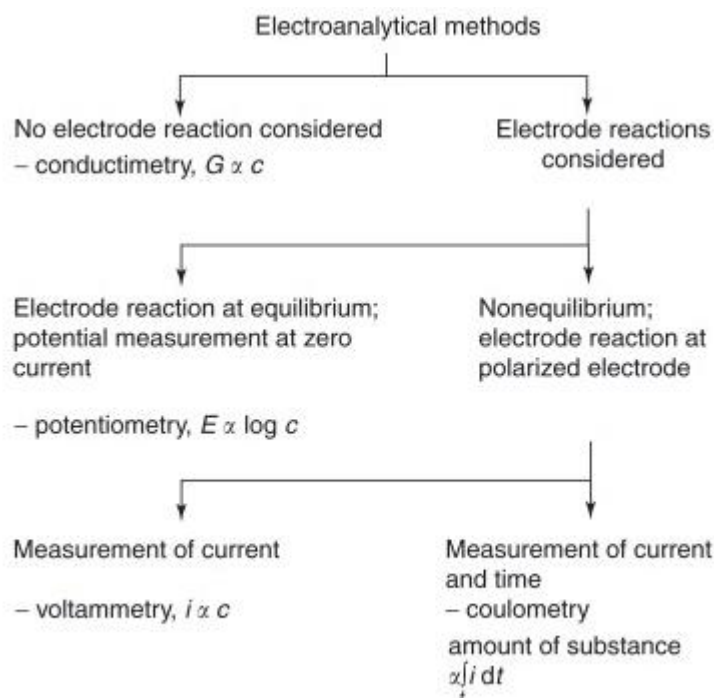

Figure 1. Classification of electroanalytical techniques.
- ❖ The analytical methods can be divided into different groups depending on the parameter measured. A schematic presentation of the methods is shown in Figure 1. The presentation is based on the recommendation of the International Union of Pure and Applied Chemistry.